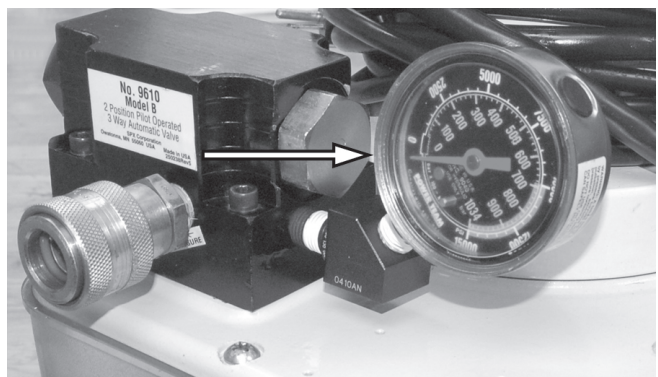

Figure 6. Gauge Installed
4. See Figure 6. Install the pressure gauge.